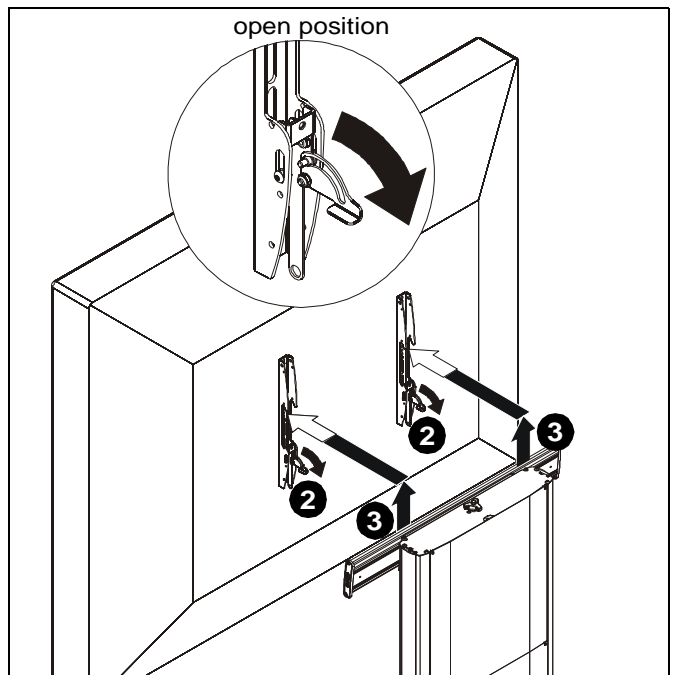

Figure 25
2. Position latches on interface uprights so that they are in the "open" position. (See Figure 25)
3. Carefully lift display from cart. (See Figure 25)